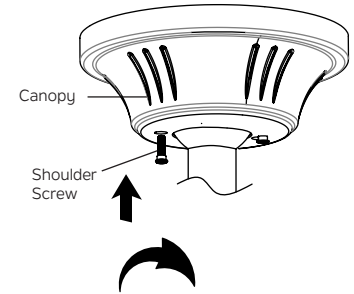

Fig. 16
**Step 2.** Assemble canopy by rotating key slot in canopy over shoulder screw in mounting bracket. Reinstall the shoulder screw that was previously removed, then retighten two shoulder screws securely. (Fig. 16)